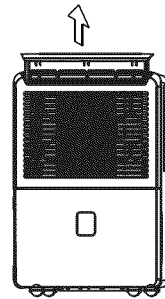

Fig. 11
- Remove the filter from the top of the unit (See Fig. 11).